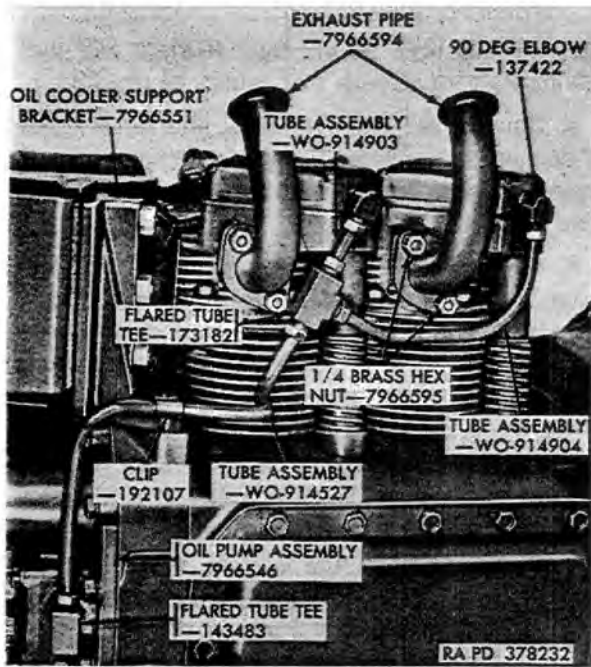
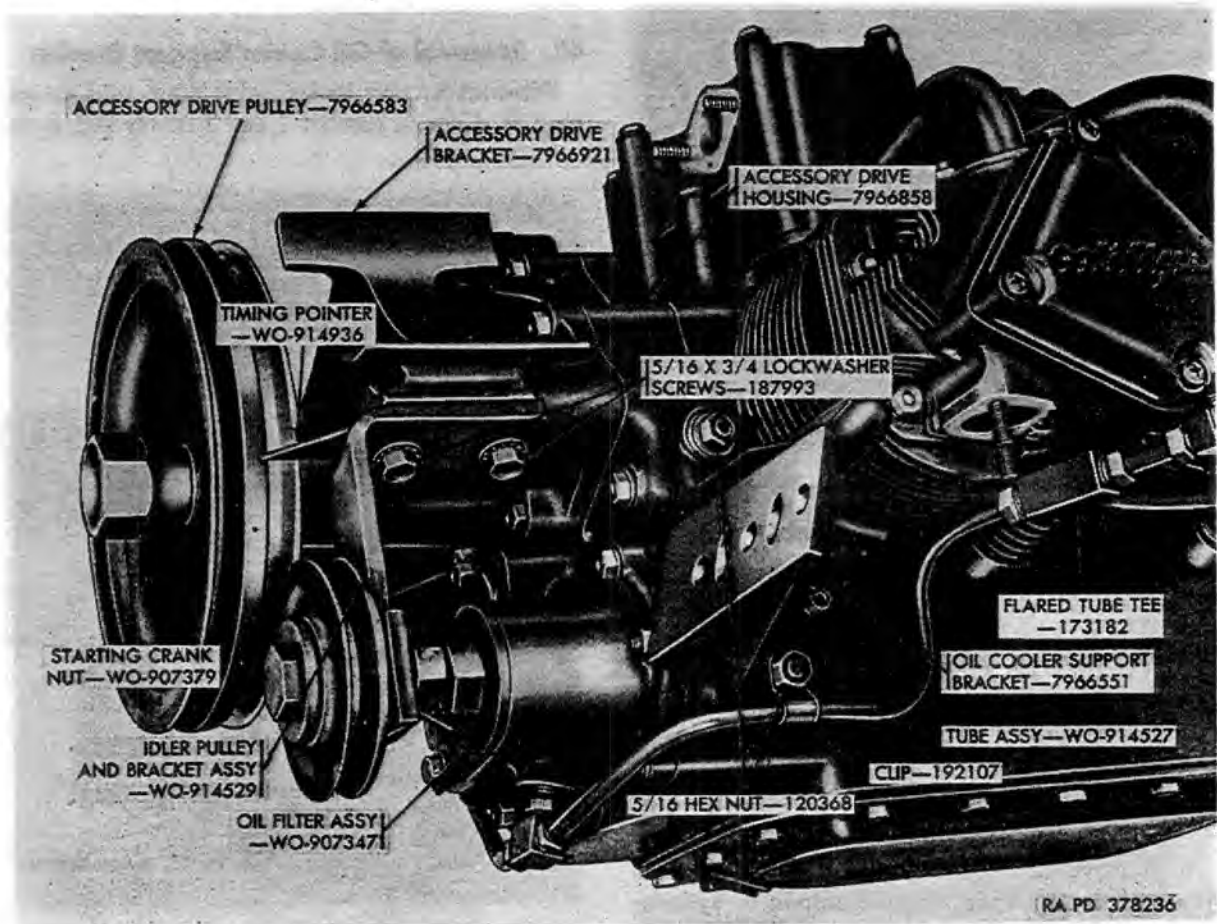

Figure 5. Exhaust pipes installed.
Figure 9. Idler pulley and bracket installed.
bearings, and valve tappet guides. Drilled passages through crankshaft journals, cheeks, and crankpins convey oil to connecting rod bearings. Excess oil, thrown from connecting rod bearings, lubricates cylinders, pistons, piston pins, and piston rings. Accessory drive components are also lubricated by excess oil, thrown from connecting rod bearings, which enters accessory drive housing through openings in front wall of cylinder block. Engine oil drains from accessory drive housing into oil pan through a drilled passage in front wall of cylinder block. Valve rocker chambers are supplied with oil which meters through drilled passages in valve tappet guides, tappets, and valve rocker arm push rods into drilled passages in valve rocker arms to lubricate valve operating mechanism. Valve rocker cover oil drain tube assemblies (figs. 5 and 13) to scavenge pump (fig. 52) in oil pump body provides continuous oil drain to accessory drive housing, which is drained into oil pan through drilled passage in front wall of cylinder block.
m. Intake Manifold and Exhaust Pipes. The cast aluminum intake manifold with connecting intake tubes (fig. 10) convey fuel-air mixture from carburetor to each of the four cylinders. The manifold is mounted to and closes the top of cylinder block. It also serves as a reservoir for engine oil when engine is inverted. Each of the four exhaust pipes (fig. 5) are connected to cylinder heads with flanges and carry exhausted gases from engine to the muffler which is mounted to vehicle platform.
(fig. 5)
39. Removal of Idler Pulley and Bracket Assembly (fig. 9)
in oil pump body (fig. 5). Remove two hex nuts, lockwashers, and flat washers attaching oil cooler support bracket to accessory drive housing (fig. 9). Lift rocker cover drain tube assemblies and clip from engine. Remove bracket and gasket from studs. Discard gasket. Remove elbows (fig. 5) from rocker covers.
a. Remove starter crank nut, lockwasher, and flat washer securing accessory drive pulley to accessory drive shaft (fig. 9). Pull pulley from shaft and remove woodruff key from shaft.